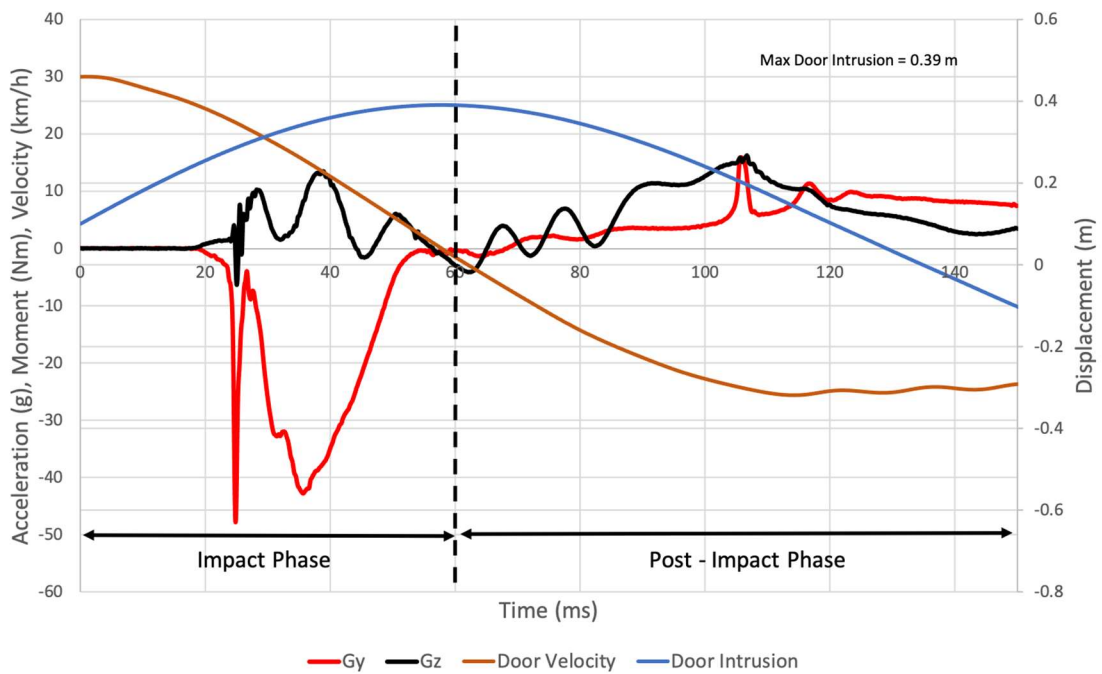

Figure 2: Example of *Impact phase* and *Post-impact phase* in side impact test
- **In side impact test.** The *impact phase* in the side impact test is defined by a period of time starting from time zero and ending at the point in time where the head acceleration in the y direction (Head g_y) crosses zero after the acceleration peak value. See Figure 2.
- **In side impact test.** The *post-impact phase* of the side impact test is defined by a period of time starting from the completion of the *impact phase* in the side impact test and ending at the point in time where the head acceleration in the y direction (Head g_y) crosses zero after the secondary acceleration peak value. See Figure 2.